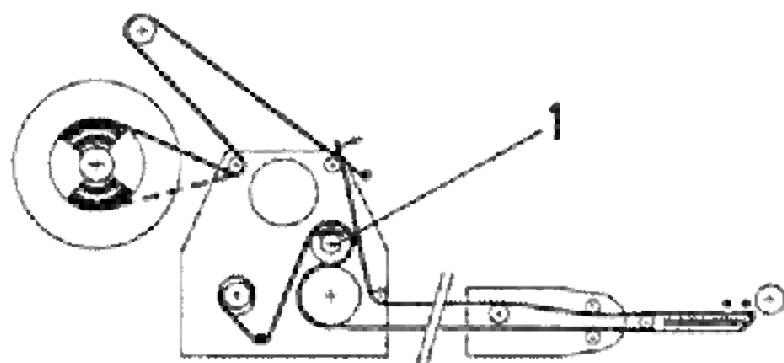

Fig. 1
Thread the label web as shown in the diagram up to the discharge edge and draw out by approx. 1 m. Detach the labels from the carrier paper at the drawout web. Then open the backpressure roller by turning the knob (1), lay the carrier paper (protective paper) over the discharge edge (dispensing edge) and finish threading the carrier paper as per figure 1. Close the backpressure roller. Adjust the side guides of the belt leaving 0.5 mm free space to the label web edge.